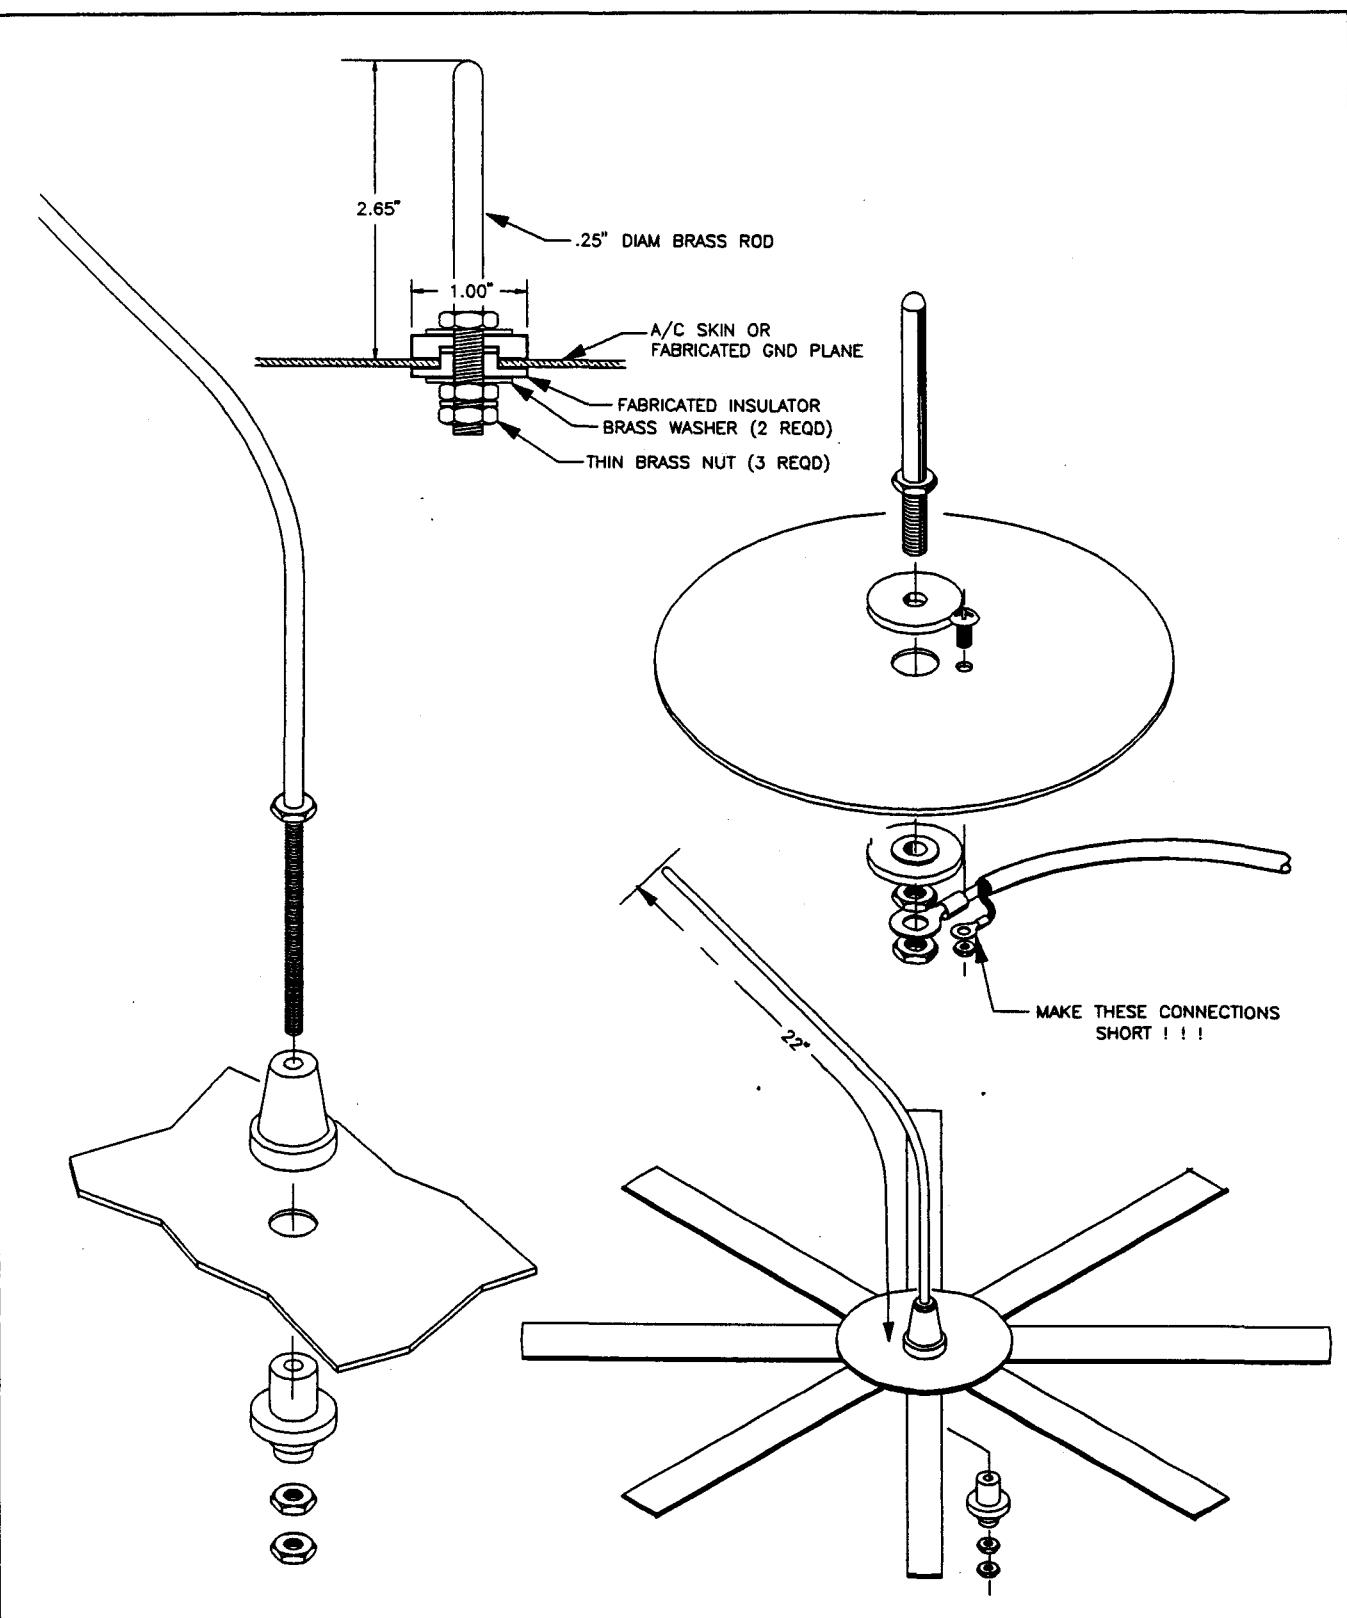

Figure 13-8. Variations on the Quarter-Wave Ground Plane.
Figure 13-8 shows several variations on the quarter-wave antenna installation. The longer "whip" antenna would be suited to VHF Comm uses while the short stubby fellow is for DME or Transponder applications. Irrespective of application, all quarter-wave ground-plane antennas have these things in common: (1) They are one quarter wavelength at the center of operating frequency range. (2) They require an artificial ground consisting of (a) many square feet of aluminum airframe skin or (b) a practical number of quarter-wave radials. (3) They are fed with a coaxial cable feedline with the center conductor attached to the base of an insulated radiator and a shield "grounded" as close to the base as possible.
Mounts for quarter-wave verticals have two requirements: they have to be good insulating material and strong enough to hold the antenna to the airframe. For the little DME and transponder antennas, strength isn't a great problem. Figure 13-8 illustrates a single hole, two piece bushing. I like to make these little guys from Delrin. A very tough, machinable plastic available from suppliers in the form of 1" rod stock. Lexan, and polycarbonate are other good materials. Nylons should be avoided. Sunlight and oil degrades nylon. Nylon also absorbs moisture. A few minutes on a lathe will make several sets of these. I cut a raised boss on the lower half which extends through the skin (and doubler) into a recess on the upper half.